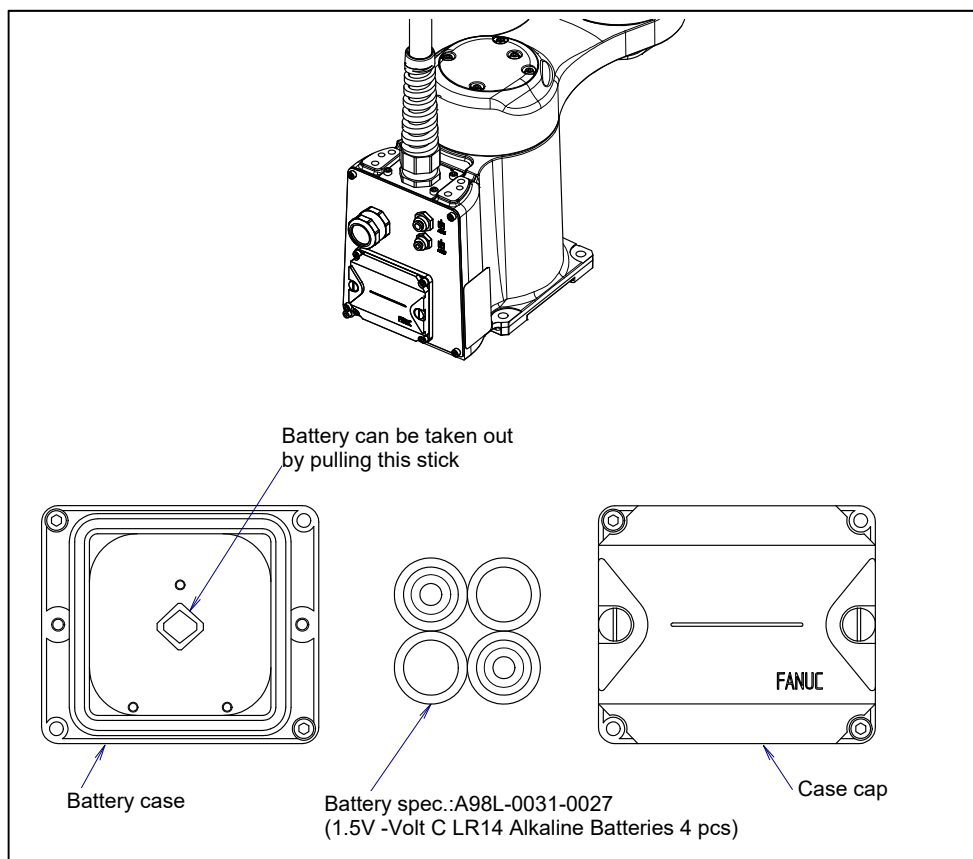

Fig. 7.3.1 (a) Replacing the battery (if built-in batteries are specified)
- 2 Remove the battery case cap. (Fig. 7.3.1 (a)) If it cannot be removed, tap it on the side with a plastic hammer.